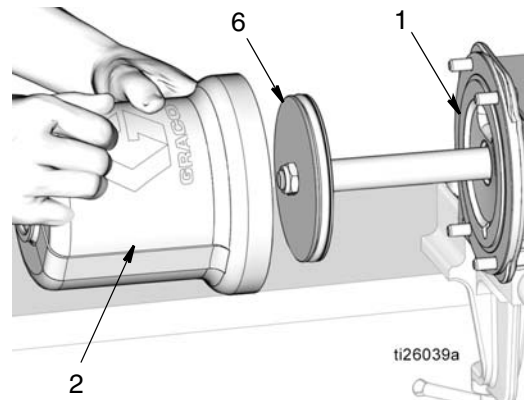

FIG. 54
- a. Use a clean cloth to wipe inside the air cylinder (2) and remove any dirt or contaminants.
- b. Apply a thin layer of grease to the inside surfaces of the air cylinder (2). Slide the air cylinder (2) over the piston (6) and push it all the way down until it is seated tightly to the pump base (1). See FIG. 54.